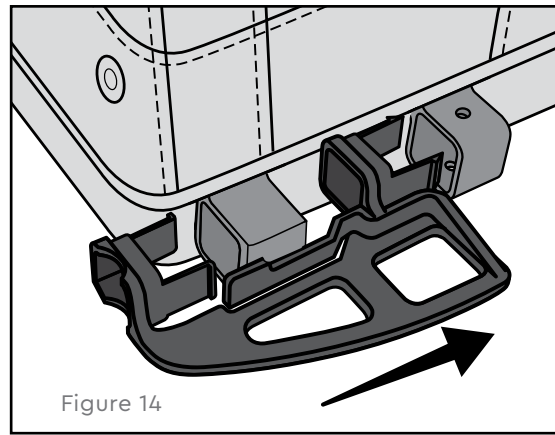

Figure 14
1. Position the wheel guard as shown (Figure 14).